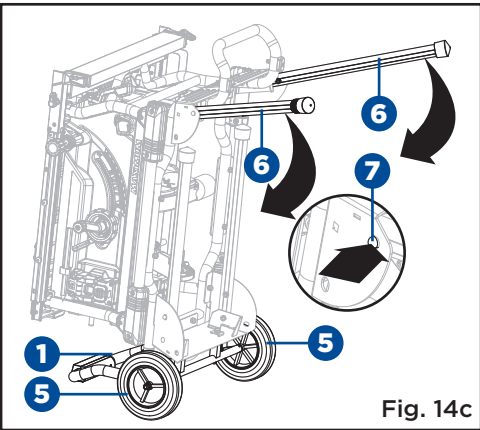

Fig. 14c
- Fold in other two stand legs (6). To do this, push the locking pins (7) until they unlock the stand legs (6) from holes, then swing the stand legs downward until the stand legs are locked with the locking pins (7) engaging the holes. (Fig. 14c)